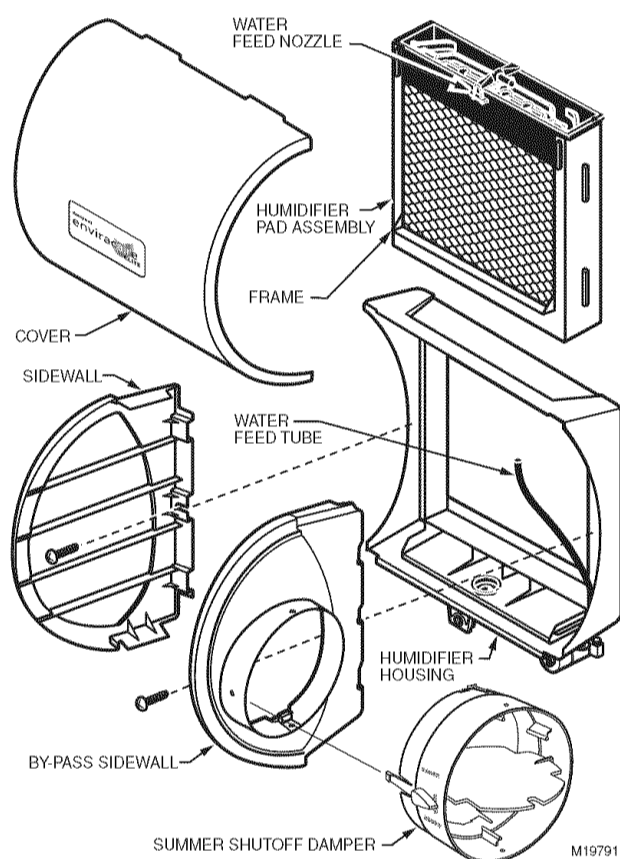

Fig. 2. Humidifier components.
- Disassemble the humidifier. Remove the cover and take out the humidifier pad assembly. See Fig. 2.